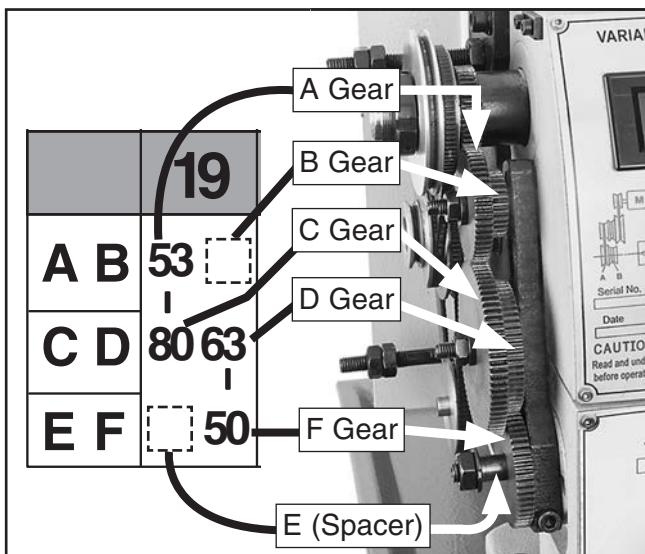

Figure 72. Primary threading configuration.
This threading configuration is used for inch and metric threading. Mesh the A and C, and D and F gears, as shown in **Figure 72**. The A/B and C/D change gears each share a keyed bushing. A spacer (E) is installed on the lower shaft in front of the F gear.